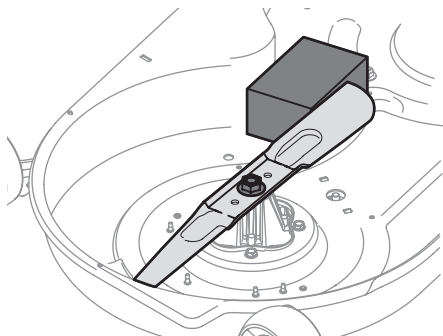

Figure 47
2. Place a block of wood between the deck housing baffle and the cutting blade to act as a stabilizer. See Figure 47.
3. Place a block of wood between the deck housing baffle and the cutting blade to act as a stabilizer. See Figure 47.